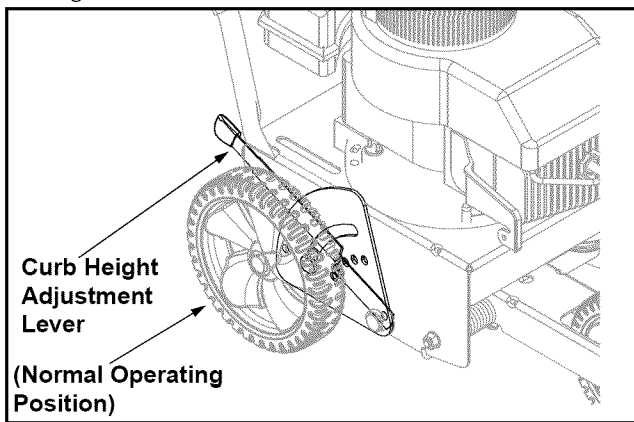

Figure 6
- Lower the right, rear wheel by moving the curb height adjustment lever slightly to the left. See Figure 6.